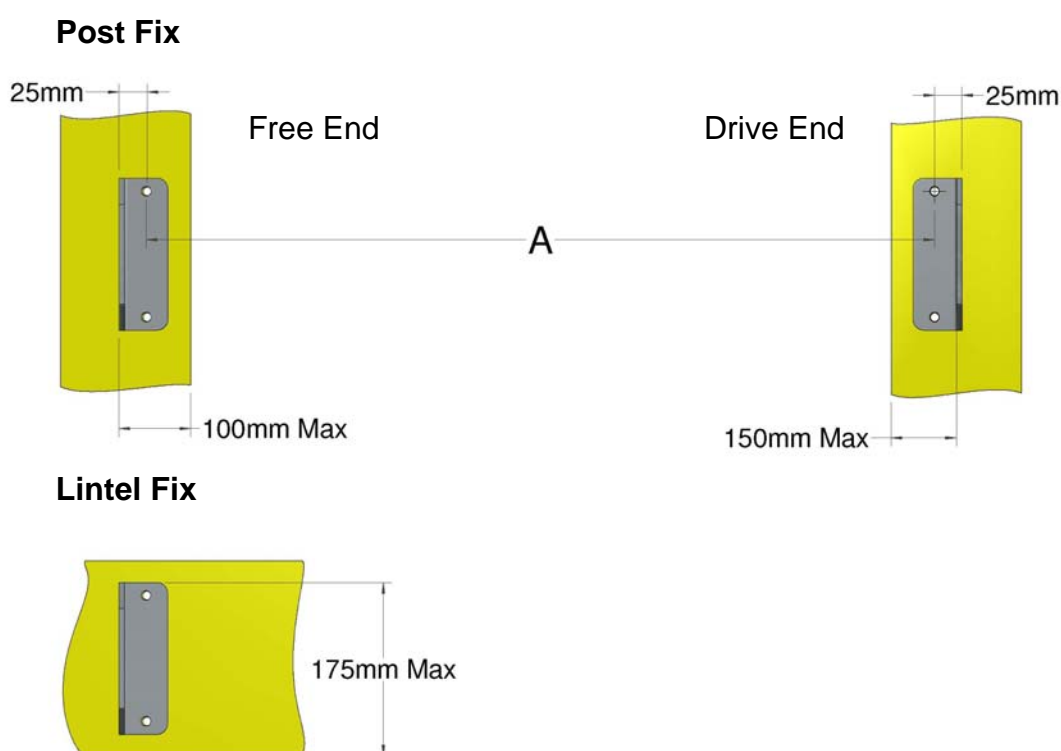

Figure 3, Top Bracket Positioning
2. Using the yellow template (R1), drill M8 holes for the two top brackets. The maximum recommended overlap for Post Fixing (Drive End) = 150mm, Post Fixing (Free End) = 100mm and for lintel fixing = 175mm (Figure 3). It is essential that the top brackets are level and upright.
ATTENTION: To prevent abrasion and material fray, maximum overlap between bracket face and edge of fixing must not exceed that shown in Figure 3. If overlap exceeds these recommendations ensure there are no sharp objects on the building to damage the material, and rough surfaces such as concrete is protected with PVC strip or similar.